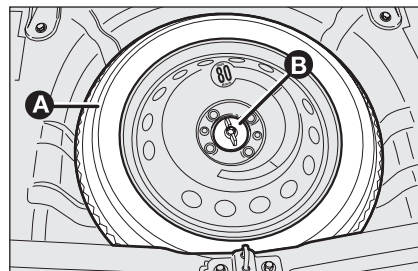

fig. 5
- ☐ loosen the fastening device **B-fig. 5**;